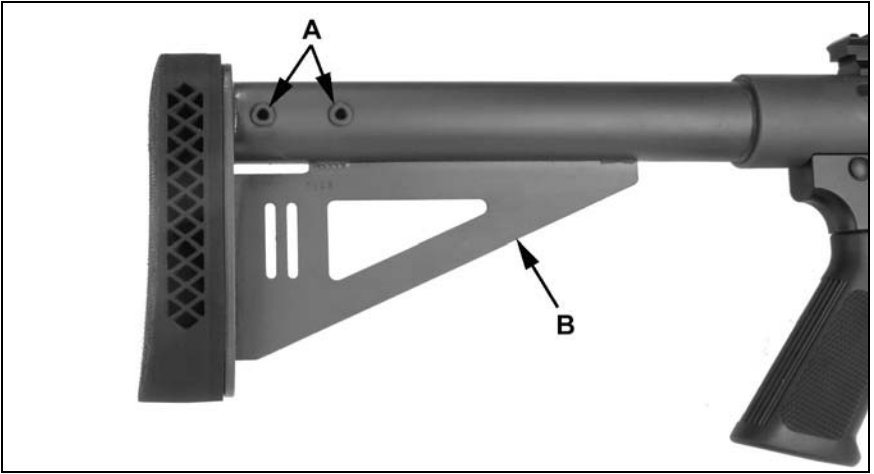

Figure 26
2. Remove pins (A) and remove stock (B). See figure 26.